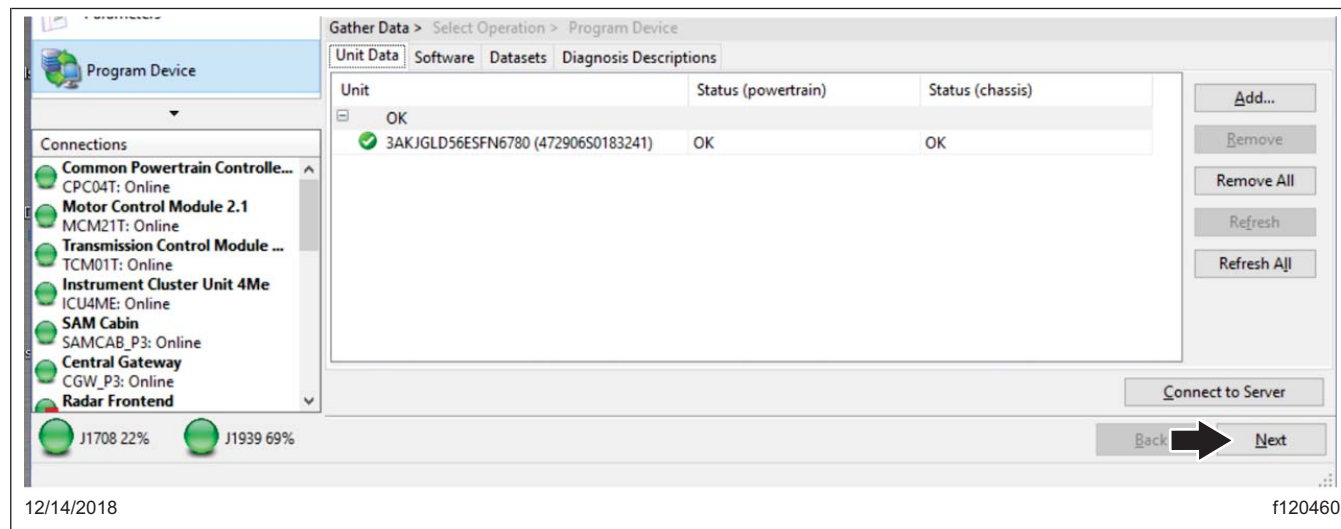

Fig. 9, Clicking Next
10. Once the data has been downloaded, click "Next". See Fig. 9.